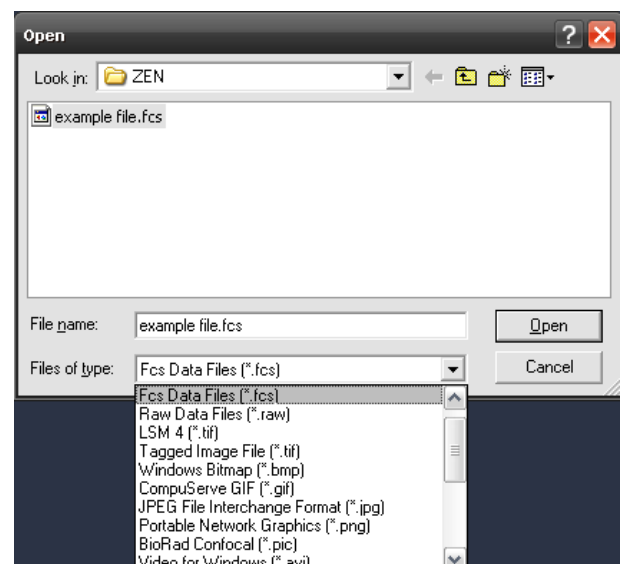

Fig. 9-83 Open dialog
- Go to **File** and then choose **Open**. This will open the Open Dialogue Box for the selection of drives, directories and subdirectories in which data files have been stored (Fig. 9-83).